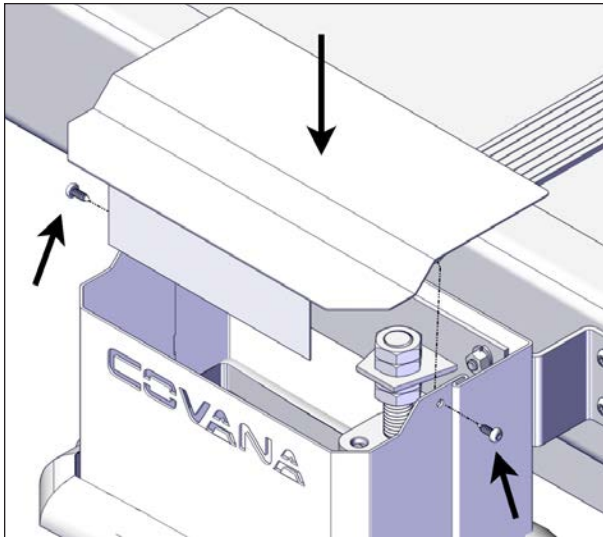

FIGURE 90: TOP PLATE COVER INSTALLATION
23. Attach the top plate cover for all posts. Use the provided Robertson #8X 1/2" self-drilling screws (2 screws per post), see Figure 90